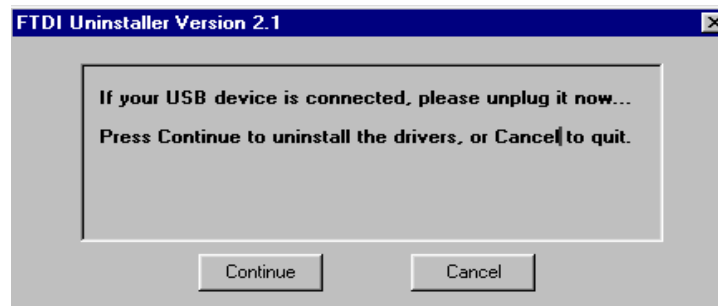

Figure 29
6. Click **Continue** on the **FTDI Uninstaller** confirmation panel (Figure 29).